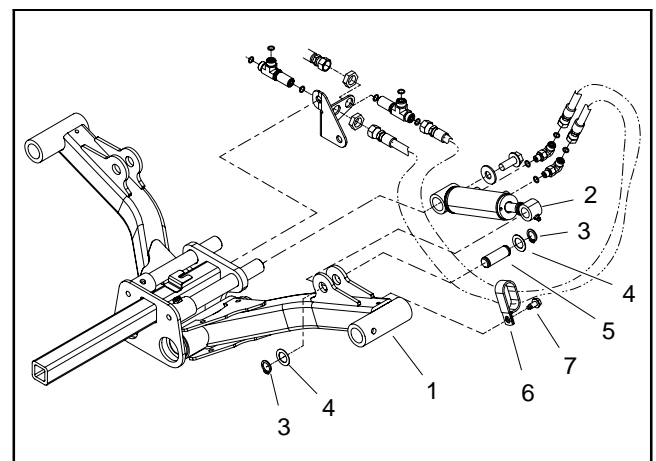

Figure 23
3. Disconnect lift cylinder from lift arm (Fig. 23):
A. Remove one (1) retaining ring and thrust washer from the cylinder pin that secures lift cylinder to lift arm.
4. Remove fasteners that secure bridge plate (item 1) and bulkhead bracket (item 16) to machine. Position bulkhead bracket with attached hydraulic hoses away from lift arm. Remove bridge plate.